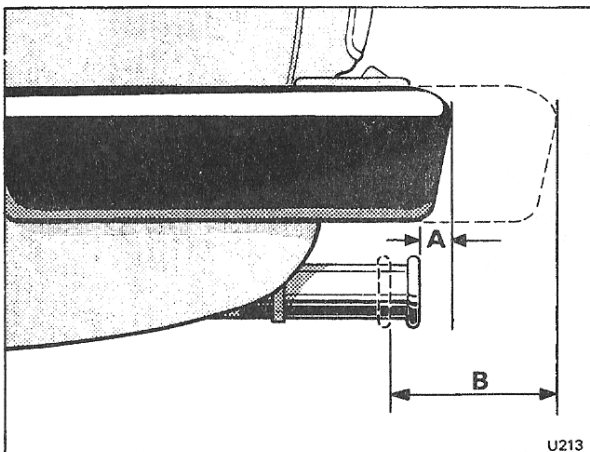

Fig. Q12 Tailpipe — nominal setting
9. Finally, set the tailpipe finishers referring to Figure Q12 for the nominal distance from the end of the finishers to the outer edge of the rear bumper.